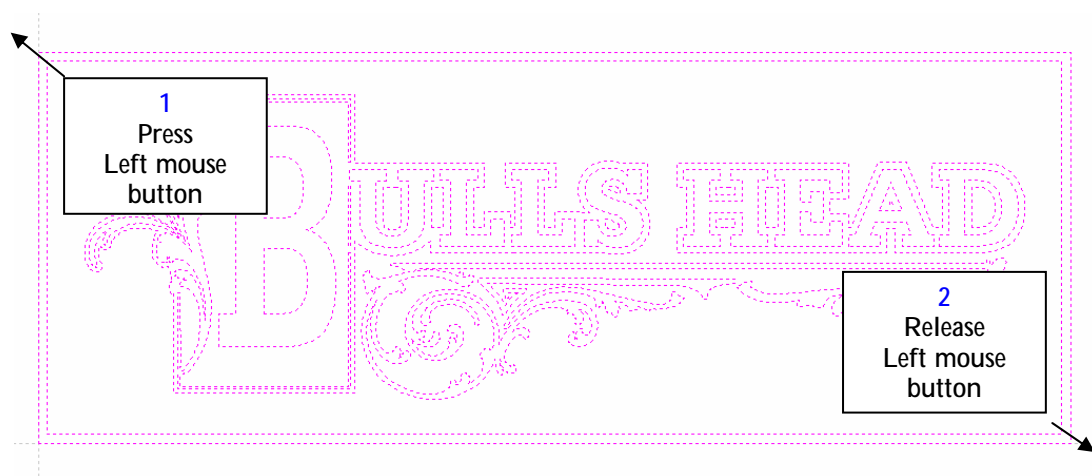

Figure 3. Select the vectors to V-Carve
5. Use the **Box selection** mode to select all the vectors in this design as shown in Figure 3.
Note: The selected vectors are drawn as **dotted purple lines** as shown in Figure 3 below.